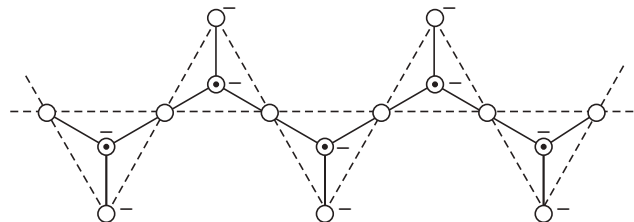
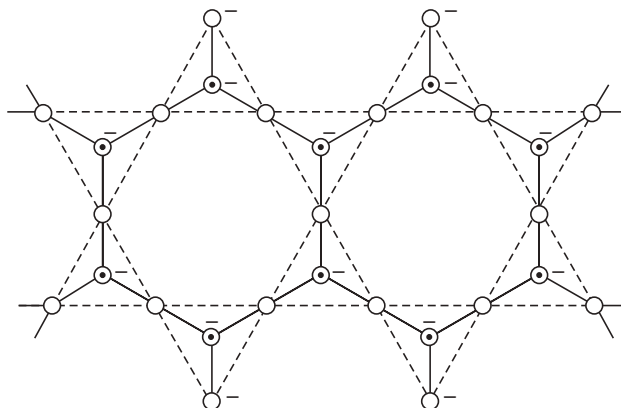

Fig. 19.1 Structure of  $[(\text{SiO}_3)_n]^{-2n}$  ion (single chain).  $\odot$  — Silicon atom,  $\ominus$  — Oxygen atom.
Fig. 19.2 Structure of  $[(\text{Si}_4\text{O}_{11})_n]^{-6n}$  ion (double chain).
*Clay is a mixture of variety of minerals* like bentonite, kaolinite, hauoysite etc. Basically most of these are *hydrated silicates of aluminium*. The structural pattern of silicates are important in different ceramic products which have been shown in following figures: In a silicate unit silicon atom is symmetrically surrounded by four oxygen atoms to form a tetrahedral unit. These tetrahedral units remain joined in the silicates (see Fig. 19.1).
**Chain silicates.** These silicates are of two types *viz.*, *single chain silicates* and *double chain silicates*. Single chain silicates contain  $[(\text{SiO}_3)_n]^{-2n}$  ion as the primary unit (Fig. 19.1), while double chain silicates contain  $[(\text{Si}_4\text{O}_{11})_n]^{-6n}$  as the primary unit (Fig. 19.2).